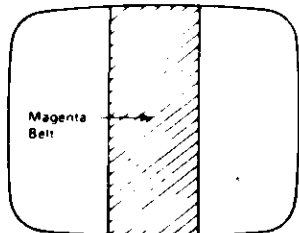

FIGURE 4
3. Pull the Deflection Yoke backward so that the Magenta belt will appear. (See Fig. 4)
- 1.4 Bring the long and short purity tab protrusions in line with each other to obtain near-zero magnetic field (figure 4) (In some cases bring the flat and indented tabs together to obtain zero field). Protrusions can then be vertical, horizontal or at any convenient angle to start.